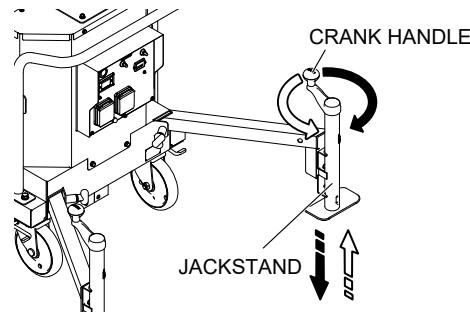

Figure 8. Positioning Jackstands
4. After extending all outriggers, rotate all trailer jackstands into the foot-down position (Figure 8).